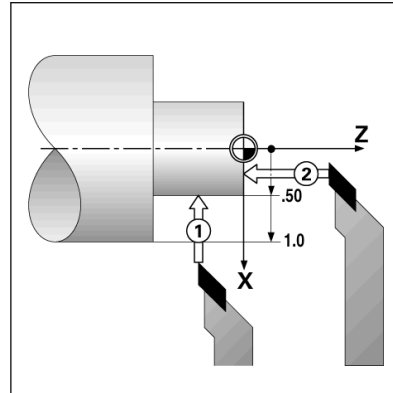

Fig. I.25 Setting a workpiece datum
**Example: Setting a workpiece datum.** See Fig. I.25.